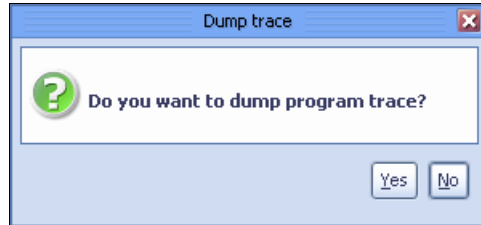

Figure 10-104 Confirmation for dump trace
2. Select **Node** → **Dump trace**. A confirmation message box opens (Figure 10-104).